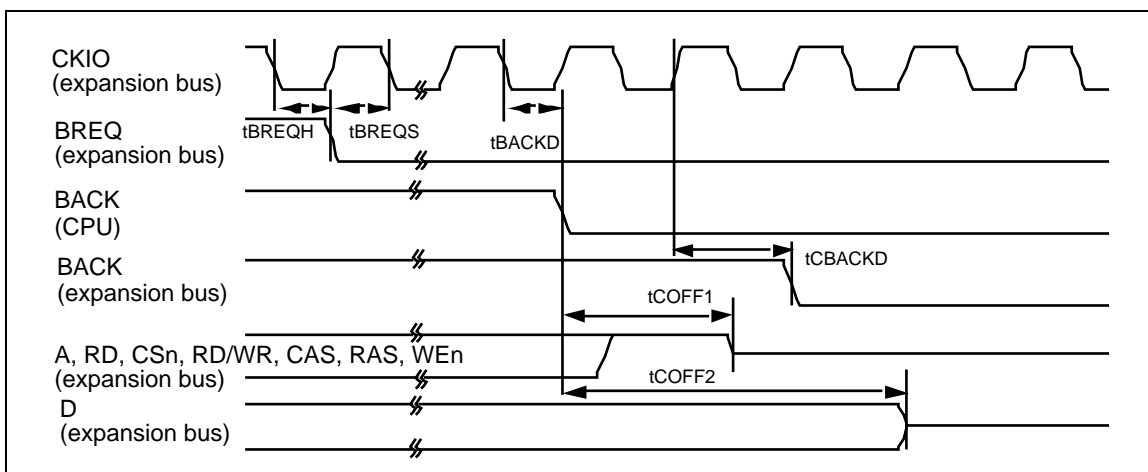
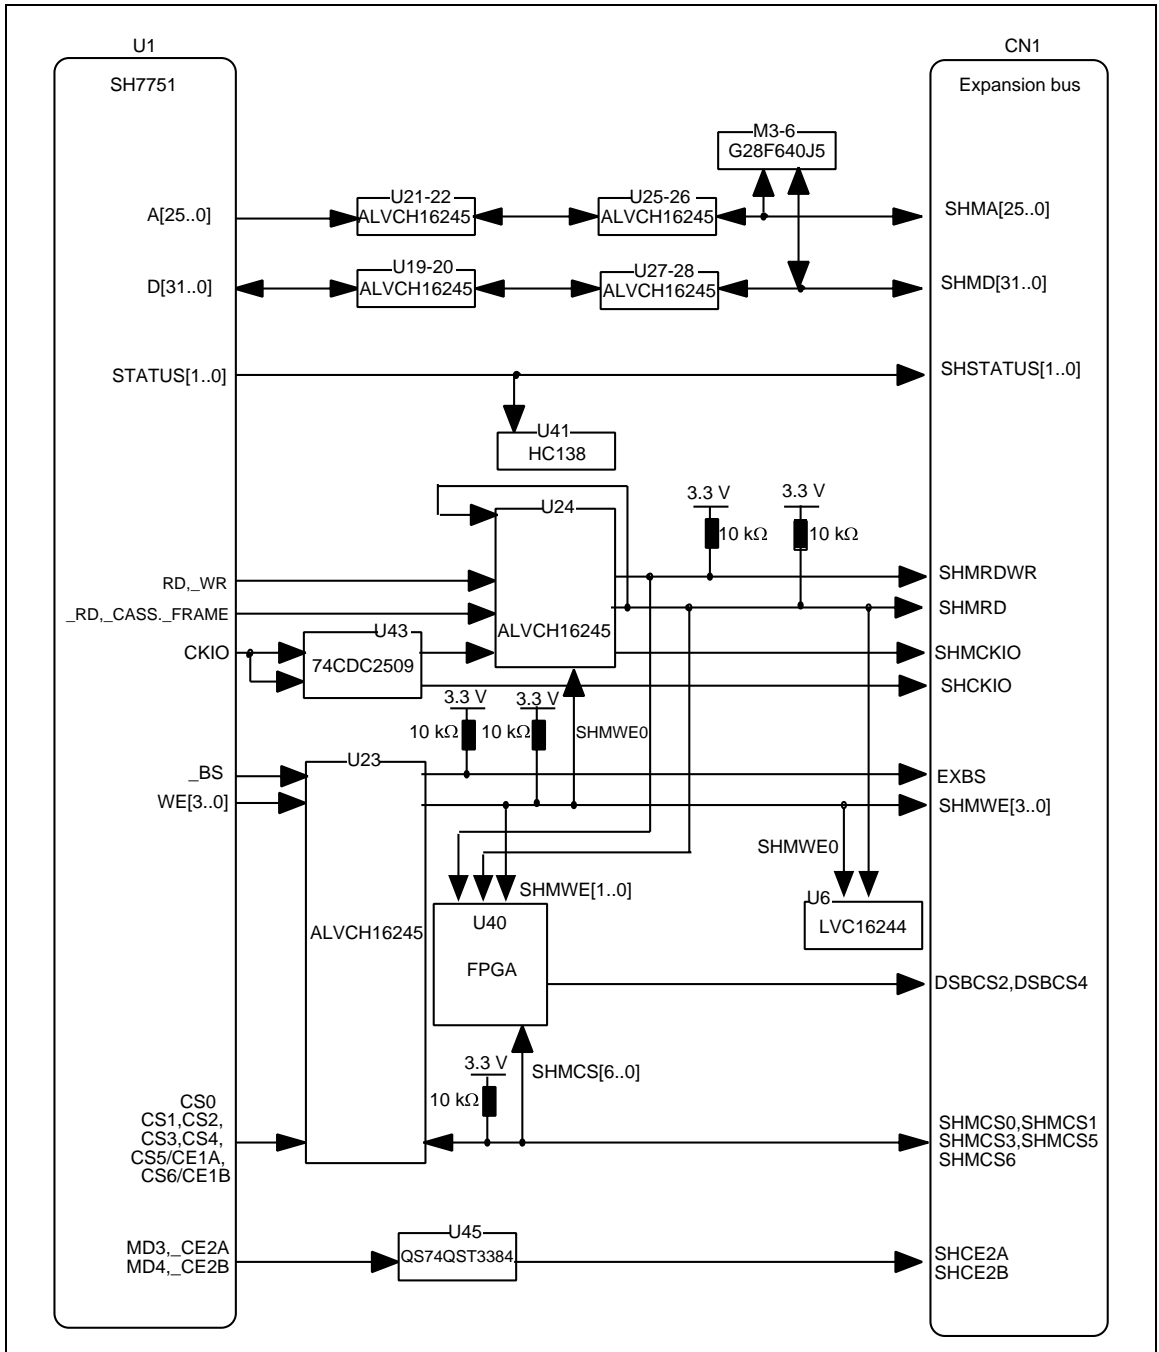

Figure 5.6 Bus Release Timing (1)
Figure 5.9 Configuration of User Expansion Board Interface Circuit (CN1)-1
- (1) D[31:0]: See figure 5.9.
- (2) A[25:0]: See figure 5.9.
- (3) RESETOUT#: The reset signal input to the CPU is directly output. Do not drive these signals from the user expansion board.
- (4) BREQ# and BACK#: The CPU signals are directly connected to the connector pins. Do not drive these signals from the user expansion board. To obtain the bus mastership, use the EBREQx and EBACKx signals.
- (5) SCIF-related signals: The HDI uses these signals to communicate with the host computer. Do not drive these signals from the user expansion board.
- (6) H-UDI-related signals: The E10A emulator uses these signals. Do not drive these signals from the user expansion board.
- (7) IRL2: The CPU signal is directly connected to the connector pin. Do not drive this signal from the user expansion board. To request external interrupts, use the IRL0, IRL1, IRL3, EXINT3, and EXINT4 signals.
- (8) RESET#, MRESET#, and NMI: ORed with the related logic on the CPU board, then input to the CPU. Refer to figure 5.9.
- (9) RDY: Pulled down on the CPU board. Control the signal so that it goes high at wait cycle insertion and enters the high-impedance state in other cases.
- (10) Bus release signals: These signals go through the related logic on the CPU board, and are used to generate the BREQ# signal for the CPU. For the bus release timing, refer to figures 5.6 and 5.7.
- (11) CS3: Signal for monitoring the status on the CPU board. This signal is used by the CPU board; do not drive this signal from the user expansion board.
- (12) CKIO and B_CKIO: As the CKIO output from the CPU is output to the user expansion board interface through an external PLL, no phase error is guaranteed (150 ps max.). As the B_CKIO output from the CPU is output to the user expansion board interface through a bus buffer, the signal has a high drivability but a large delay (3.6 ns max.).